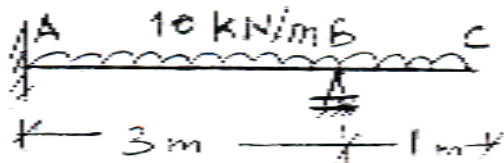

Fig. 5
3. a) Find the support reactions for beam shown in Fig. 5. Hence plot SFD and BMD for a beam loaded and supported as shown. Assume constant EI for all members. Use three moment theorem.